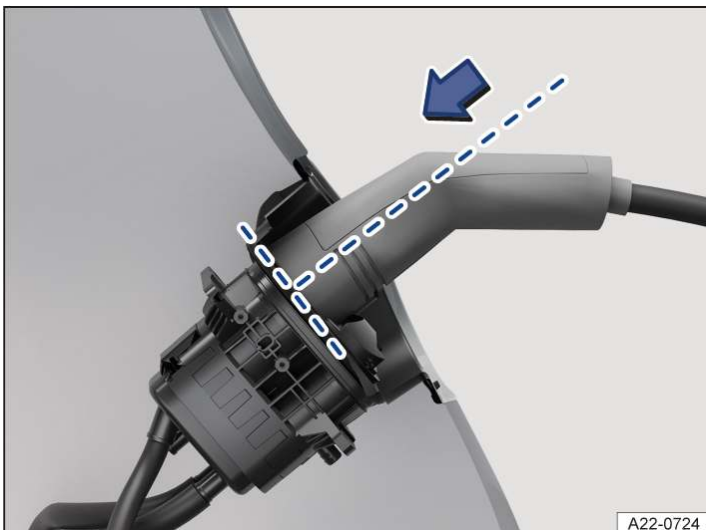

Fig. 2 Fully inserted charging connector (illustration).
5. Insert the charging connector into the charging socket and check that it is straight and fully inserted → Fig. 2.